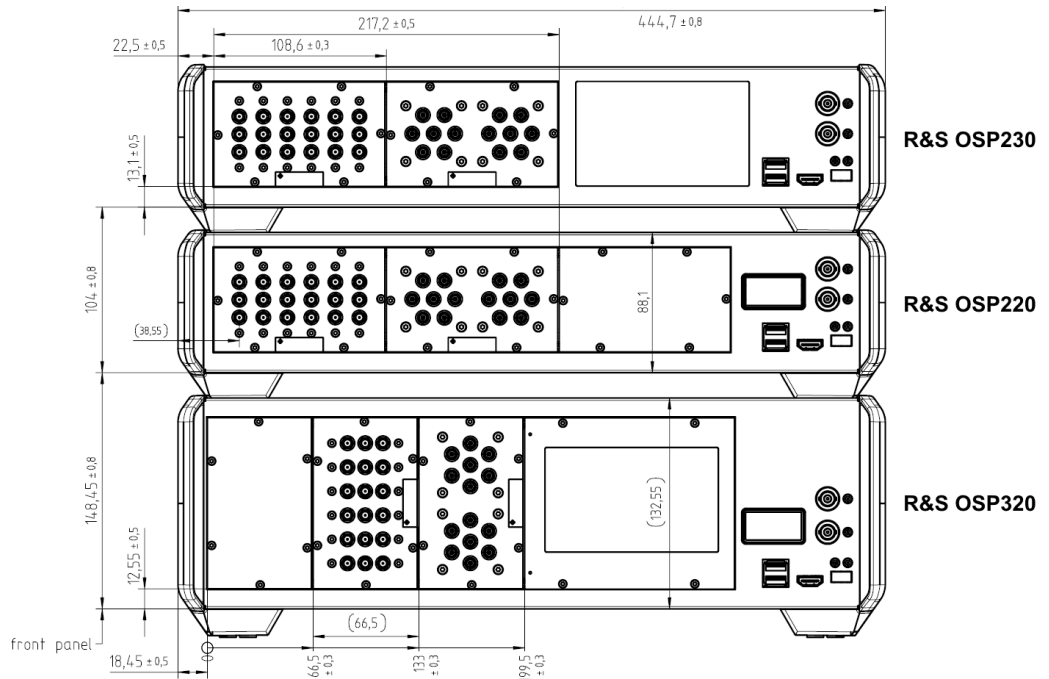

Figure A-3: Front panels of the stacked stand-alone units
- Figure A-3 and Figure A-4 show the geometry in a stack of stand-alone units